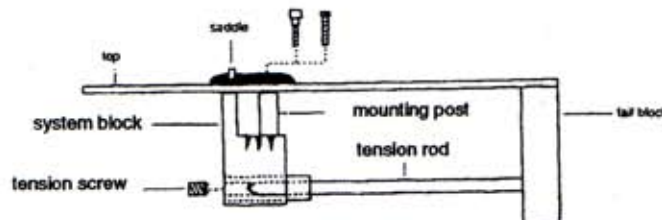

Figure 1
- a. To install the JLD Bridge Doctor, first sort the replacement pins according to the size of the small holes in the top of the pins. These holes become the string holes. Once installed, your guitar will string like one with a pinless bridge. Install the five (5) replacement pins in the appropriate holes using the locking nuts that have been provided. Do not install a pin in the D or G string holes. It's your choice, but we usually recomend the D hole. Do not over-tighten the pins. A paper clip or safety pin makes a good wrench to tighten and yet not over-tighten the pins. (Refer to Figure 1)